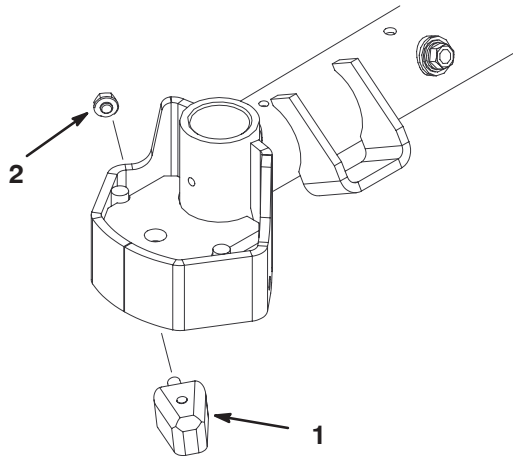

Figure 18
1. Remove nut and right bumper from lift arm steering plate (Fig. 18).